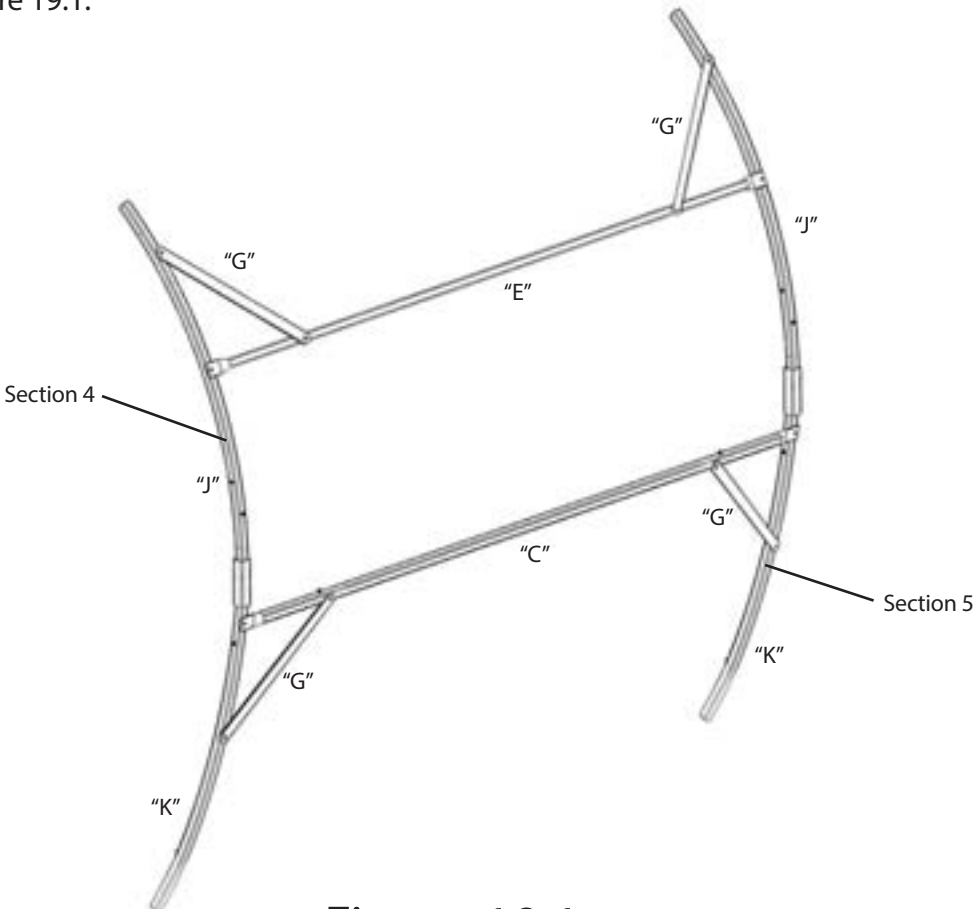

Figure 19.1
STEP 11: Install Section 4 that was created in Step 9, with Section 5 that was just created in Step 10, resulting in the frame section illustrated in Figure 19.1.